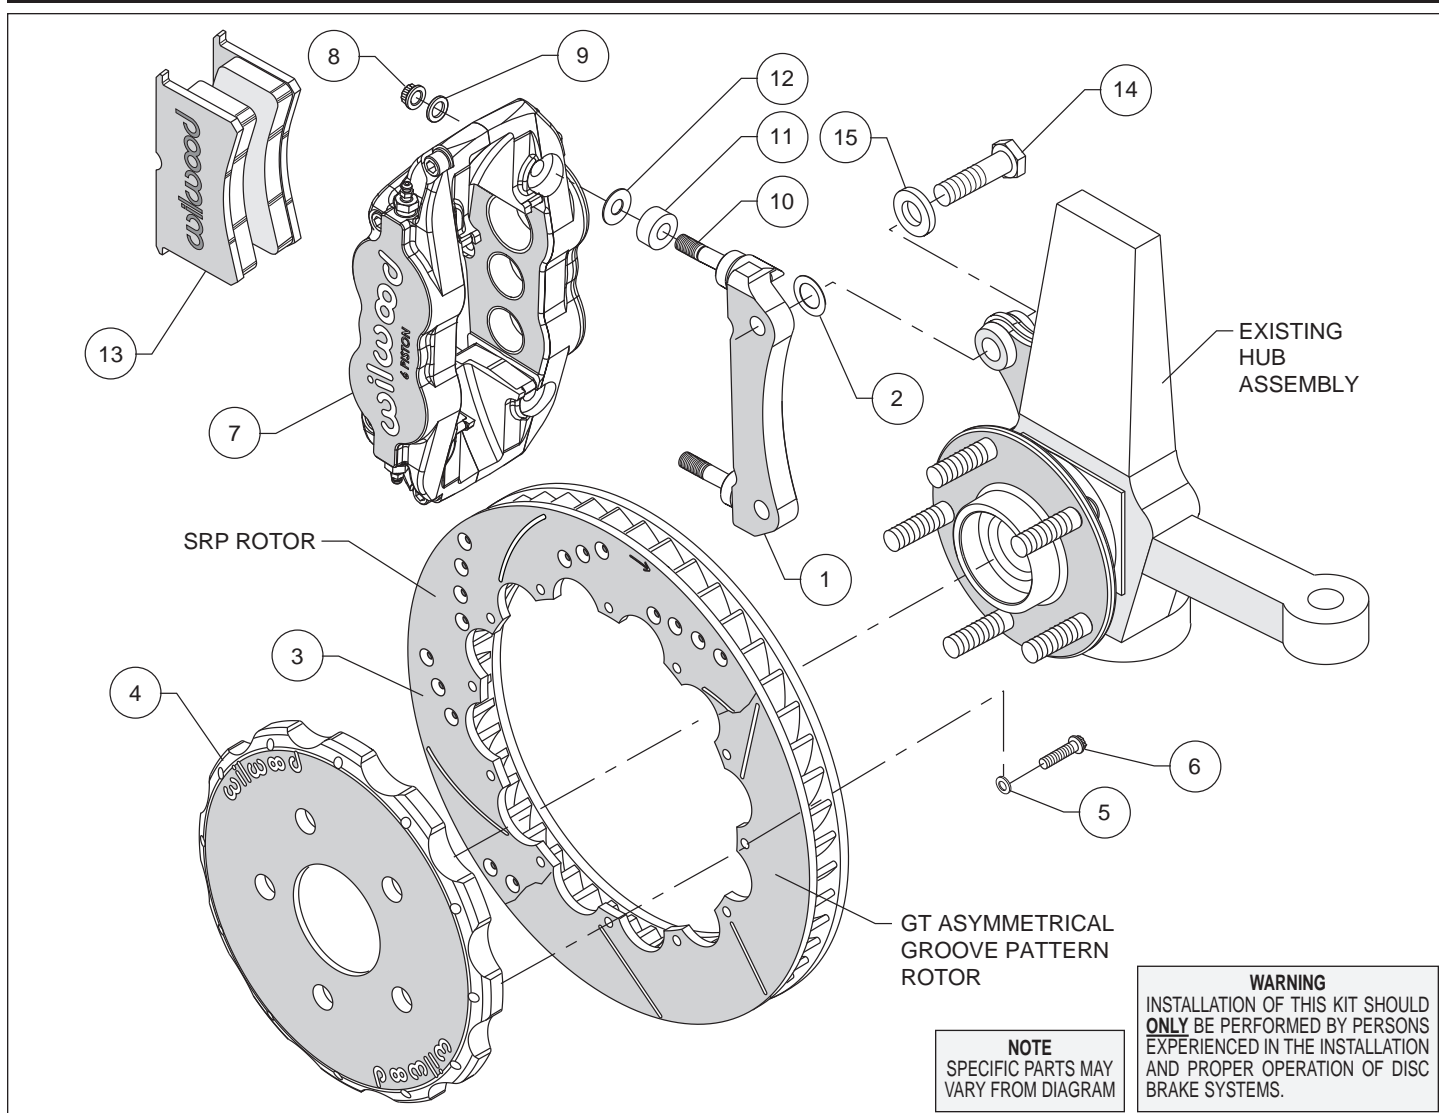
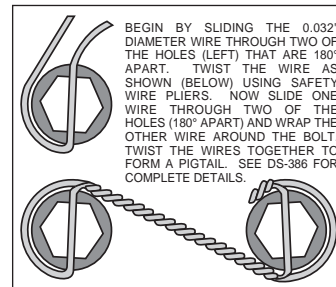

Figure 1. Typical Installation Configuration
Figure 3. Safety Wire Diagram
**Assembly Instructions** (numbers in parenthesis refer to the parts list and Figure 1 on the preceding pages):
- The caliper mount bracket (1) should initially be installed with clean, dry threads on the mounting bolts. Orient the bracket, as shown in Figure 1 and install using bolts (14) and washers (15). Initially place one .029" thick shim (2) on each bolt between the bracket and upright, Figure 1. Temporarily tighten the mounting bolts. **NOTE:** The bracket must fit squarely against the mount bosses on the upright. Inspect for interference from casting irregularities, machining ridges, burrs, etc. Later, after the caliper alignment has been checked, the mount bolts will be secured using red *Loctite*® 271.
- Orient the rotor (3) and the hat (4) as shown in Figure 1 and Photo 1. Attach rotor to hat using bolts (6) and washers (5). Using an alternating sequence, apply red *Loctite*® 271 to the threads, and torque to 155 **in-lbs**. For an added measure of security, the bolts may be safety wired using standard 0.032 inch diameter stainless steel safety wire as shown in Figure 3. Refer to Wilwood's data sheet DS-386 (available at [www.wilwood.com/Pdf/DataSheets/ds386.pdf](http://www.wilwood.com/Pdf/DataSheets/ds386.pdf)) for complete safety wire installation instructions.
- NOTE:** This kit contains distinct right and left hand calipers that must be mounted in a specific direction, as described below. Lubricate the caliper mounting studs (10) with lightweight oil. Initially place one .035" thick shim (12), and spacer (11) on each stud as shown in Figure 1 and Photo 2. Mount the caliper (7) onto the bracket (1) using lock nuts (8) and washers (9), Figure 1. Ensure that the caliper is mounted so that the largest pistons are at the rotor exit end of the caliper, in relation to the direction of rotor rotation. Temporarily tighten the lock nuts and view the rotor through the top opening of the caliper. The rotor should be centered in the caliper, Photo 3. If not, adjust by adding or subtracting shims (2) between the bracket and the upright. Always use the same amount of shims on each of the two mounting bolts. Once the caliper alignment is correct, remove the bracket mounting bolts (14) one at a time, apply red *Loctite*® 271 to the threads, and torque to 77 ft-lb.